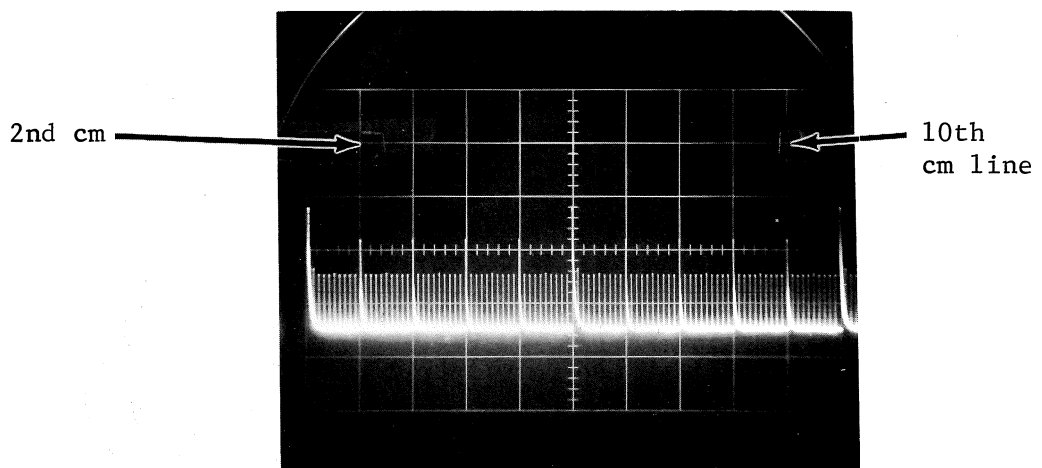

Figure 51
Unless otherwise stated, all timing adjustments will be made from the 2nd to the 10th cm lines. (See Figure 51. This area is referred to as the middle eight (8) cm of horizontal deflection.